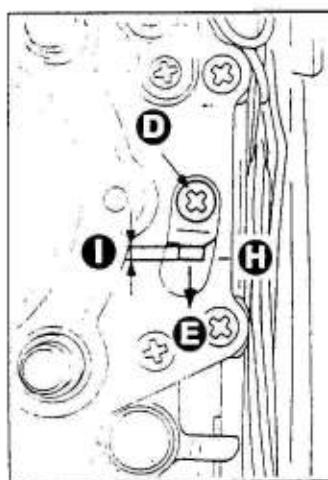

Fig.6
4. While repeating the steps 2 and 3, find out the position where you can release the shutter, and put the mark **H**. (See Fig. 6.)